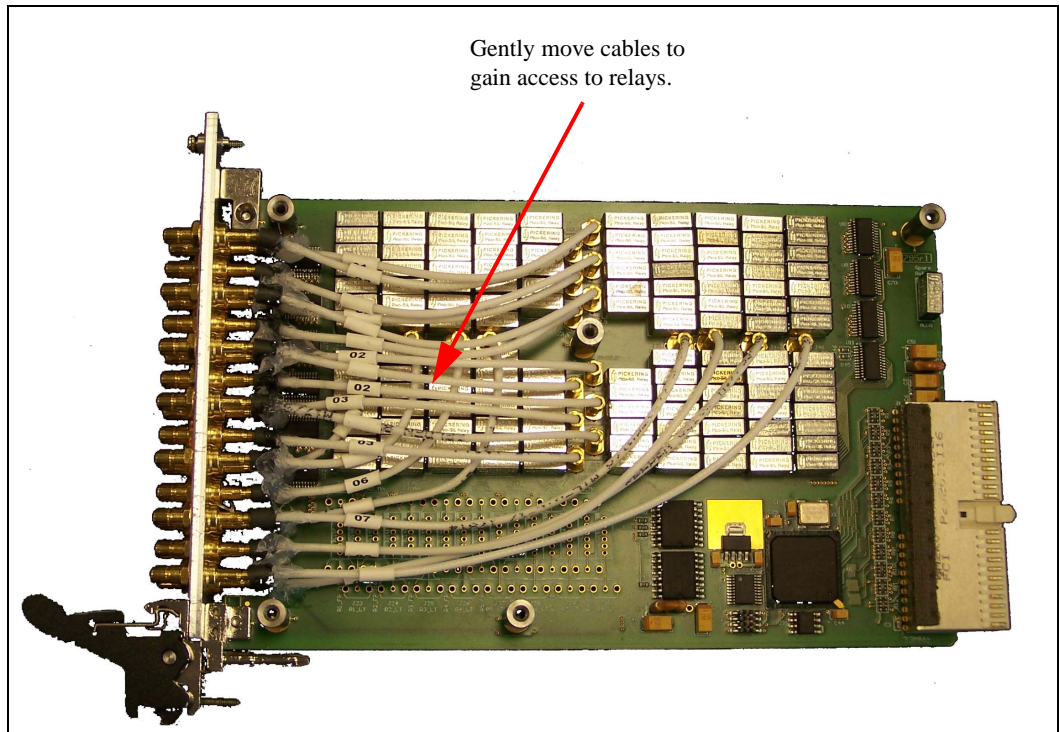

Figure 38 Cabling in the M9128A RF Matrix module
- 3 On the top side of the module, carefully move the cabling to remove and replace the relays. See Figure 38.